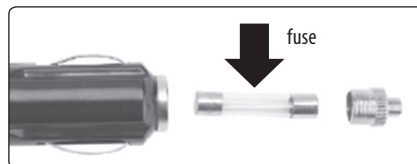

Fig. 10
- In the event that the device is not being charged while the engine is running, check that there is voltage in the vehicle's socket and also the integrity of the wire in the fuse of the cable's 12 V connector. To access the fuse, it is necessary to unscrew the „cap“ on the 12 V connector (see fig.10). In the event that the fuse is damaged, replace it with a new one (fuse type F2AL 250 V).